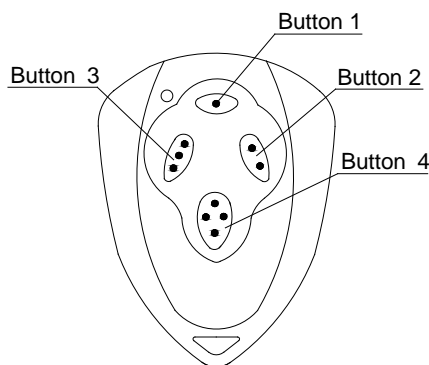

Fig.7
- The remote control works in a single channel mode. It has four buttons. See Fig.7 remote control. The function of button 1, button 2, and button 3 are the same. With each press of the remote control button which has been programmed, the gate will close, stop, open or stop cycle. Button 4 is available for pedestrian mode.